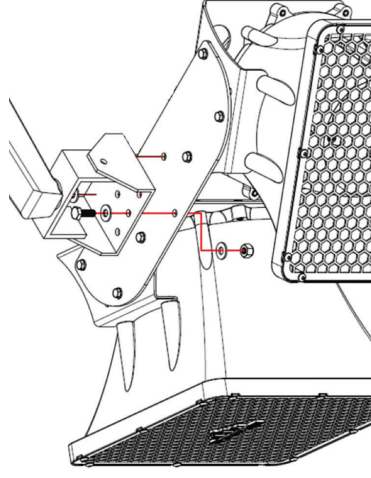

Figure 6: Attaching Dual Speaker System to a Wall Mounting Bracket
- 2) Attach the wall mount bracket to the middle holes of the dual mount plate with three ¼"-20 bolts (Figure 6).